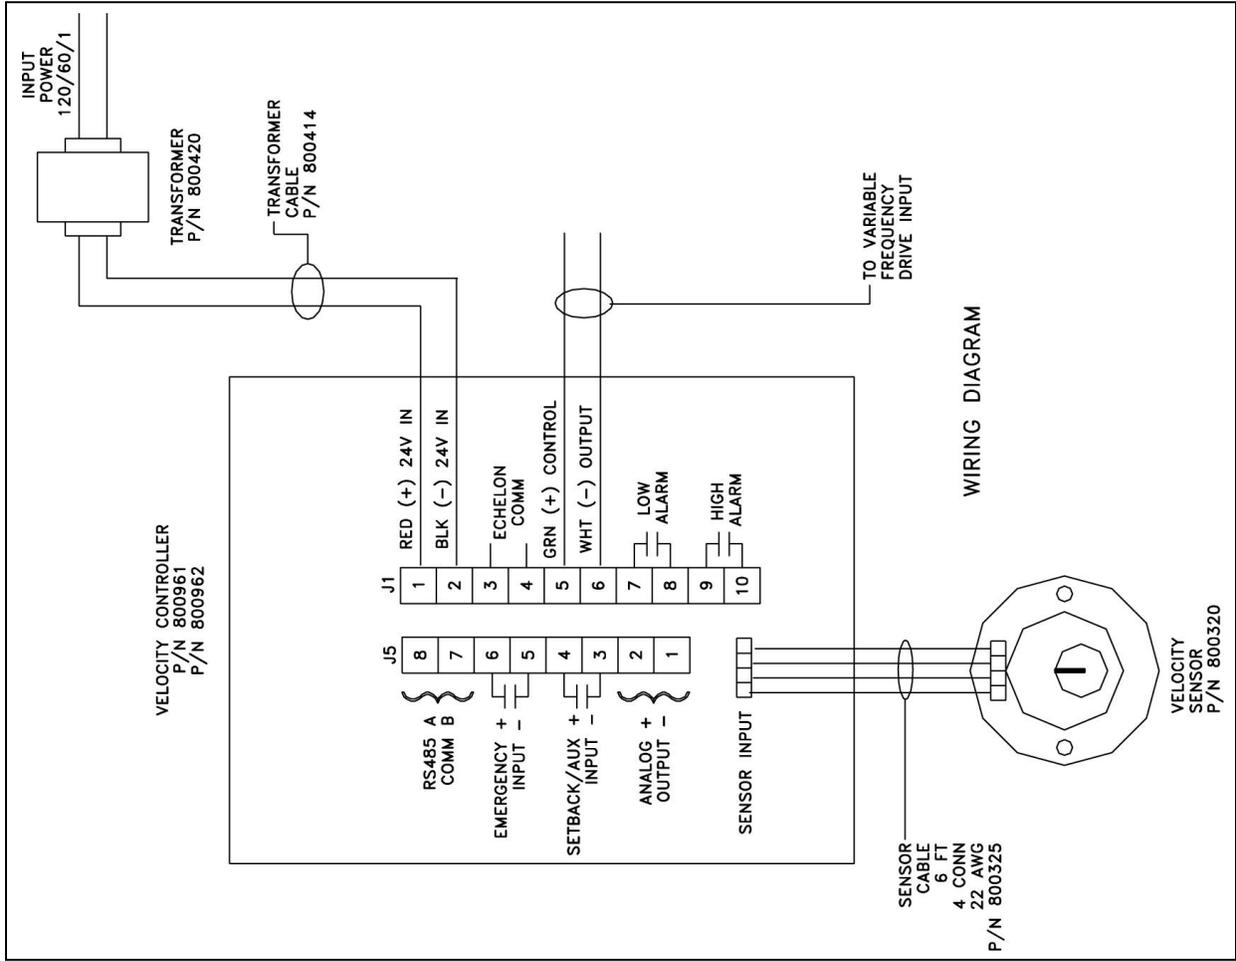

Figure 9: Wiring Diagram - Motor
3. Refer to the wiring diagrams, Damper Versions (Figure 10) and Motor Versions (Figure 9), for proper wiring installation.